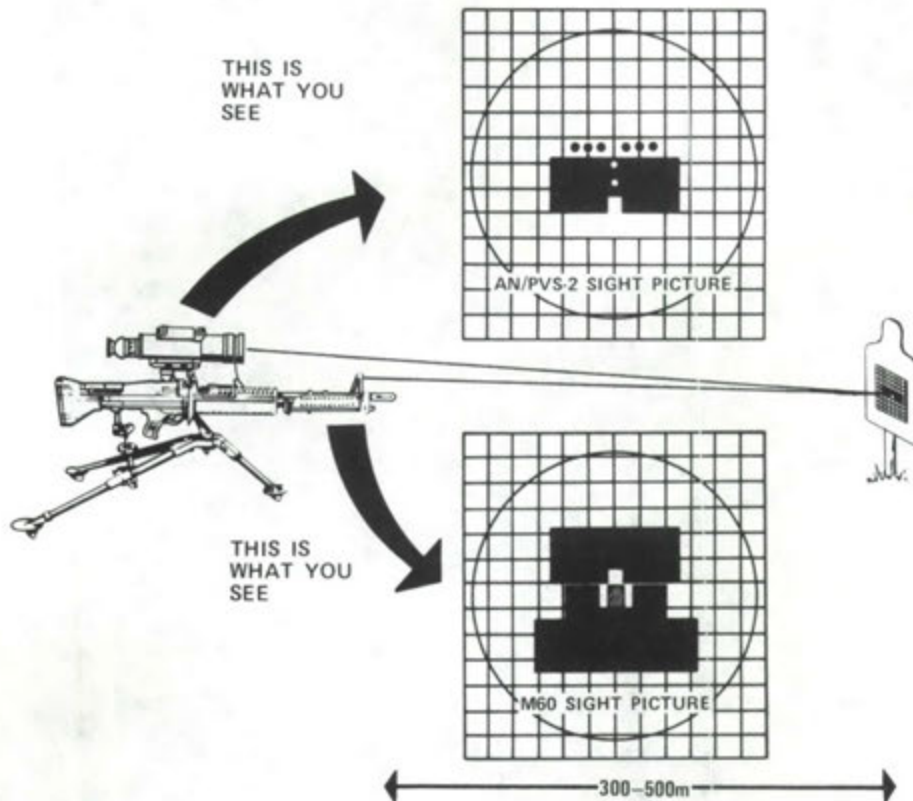

Figure 3.
2. **The Known-Distance Target Method of Zeroing.** Use a tripod. If one is not available, use a rest which gives maximum stability (figure 3).